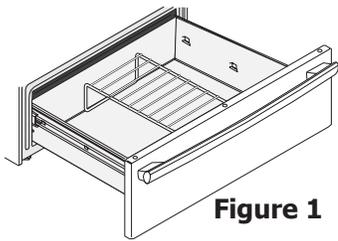
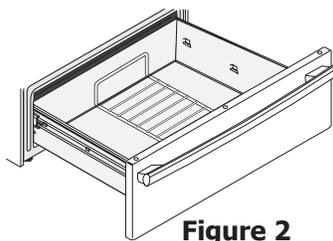

Figure 1
Figure 2
- In the **upright position** (Figure 1) to allow low profile food items to be placed both under and on top of the rack (for example, rolls or biscuits on top of the rack and a casserole dish underneath).
- In the **downward position** (Figure 2) to allow you to place light weight food items and empty dishware (for example, rolls or pastries and dinner plates) on the rack.
The ESEC control provides various heat levels from **Hi** (Figure 2) to **Lo** (Figure 5) and **OFF** (Figure 1). The settings between **3.0** and **9.5** increase or decrease in increments of .5 (1/2). The settings between **1.2** and **3.0** are Simmer settings which decrease or increase in increments of .2 (1/5) to **Lo** (Figure 5; lowest Simmer setting) for more precise settings at lower heat levels. Use the Recommended Surface Setting Chart to determine the correct setting for the kind of food you are preparing.